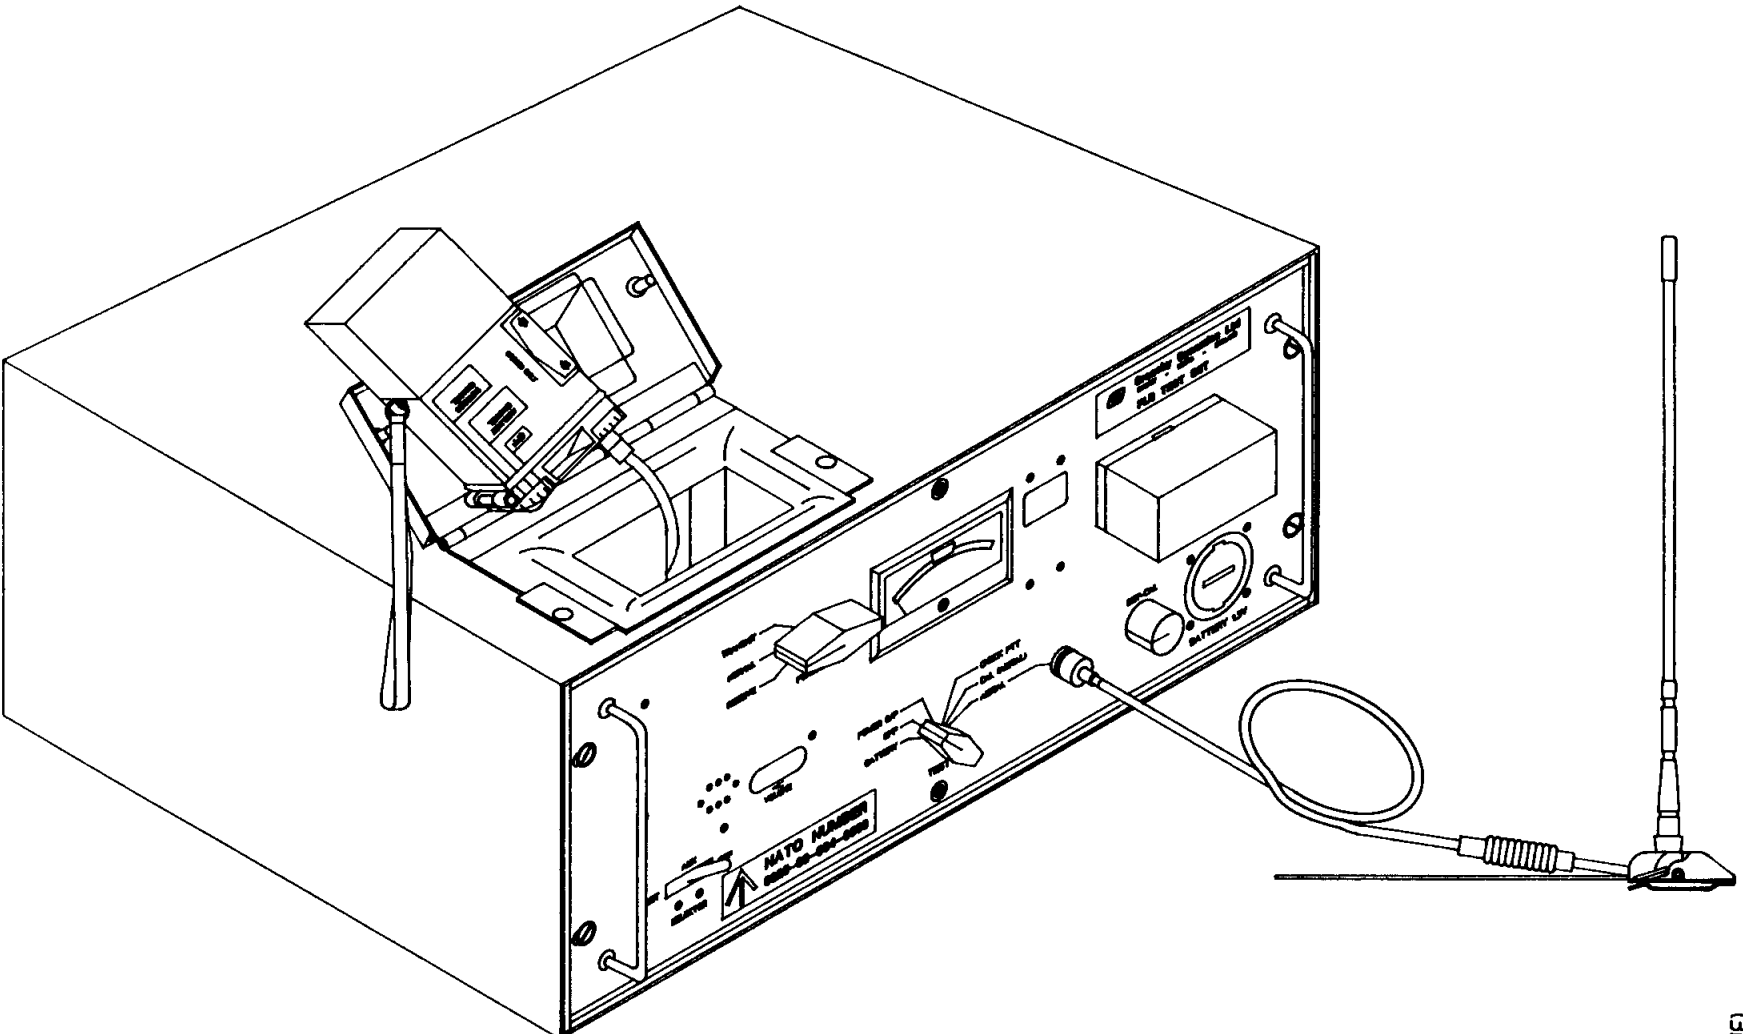

FIG.1 PERSONAL LOCATOR BEACON TEST SET
- 2 The PLB Test Set (fig 1) enables a PLB (ARI23237/1&2) to be checked out as follows:
- (1) Functionally in all transmit modes.
- (2) Auto-aerial cable assembly and aerial continuity and insulation.
- (3) Self-test facility in transmission modes.
- (4) Operation of volume control.
- (5) Very limited assessment of the receive channels.
- (6) On-load battery voltage check.
- 3 During checks (1) and (3) to (5) the PLB under test is totally enclosed within the Test Set, the case of which provides effective screening to reduce rf radiation to a negligible level. The rf radiated by the PLB is significantly reduced by the substitution of a dummy load for the aerial.